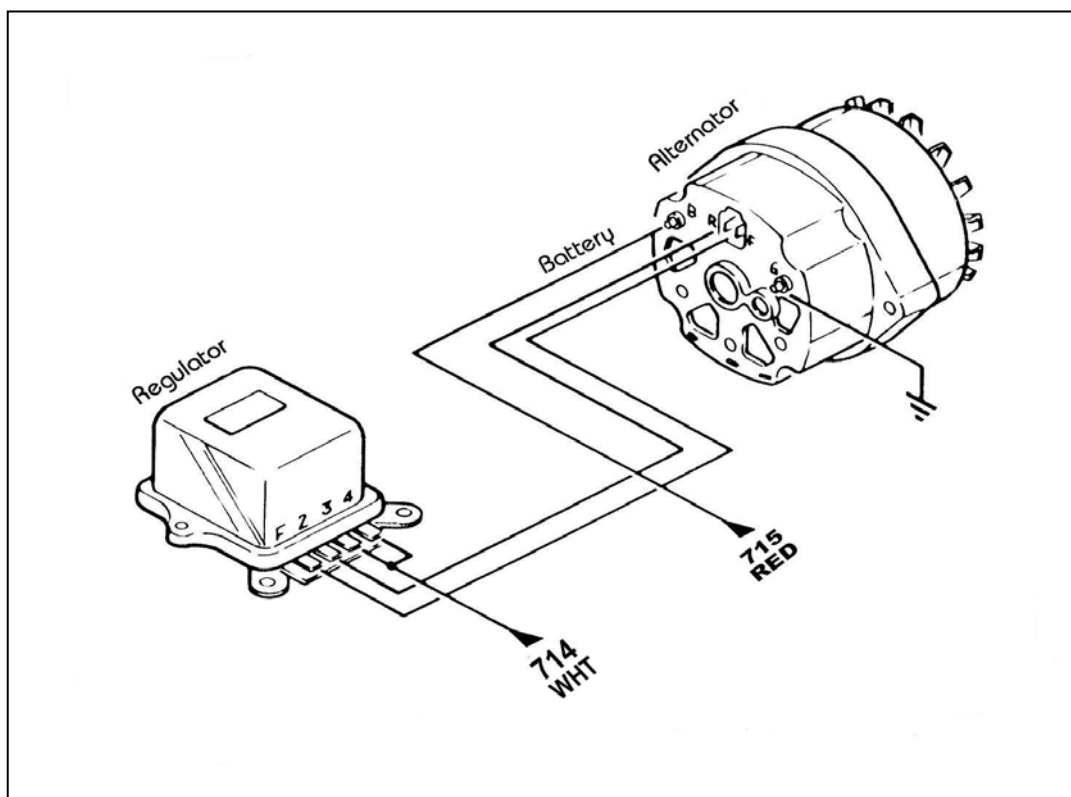

Figure 9.1 Delco Alternator (External Regulator)
9.1 Delco Alternator (before 1969) – External Regulator. See Figure 9.1.